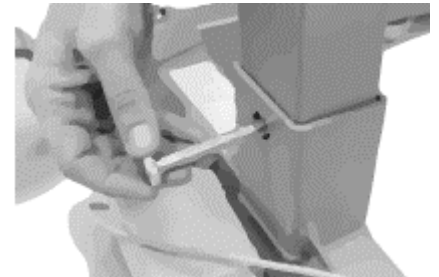

Figure 5
F. When the mast is fully engaged with the base, fit and fully tighten the Star Handle and Bolt. (As shown in Fig. 5 and 6).